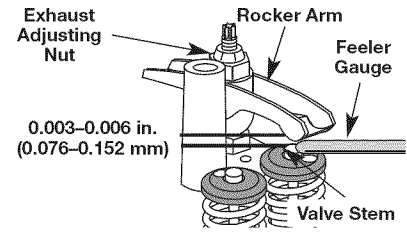

Fig. 29
- a. Turn the adjusting nut using a 5/16 inch (8 mm) wrench or nut driver (Fig. 29).